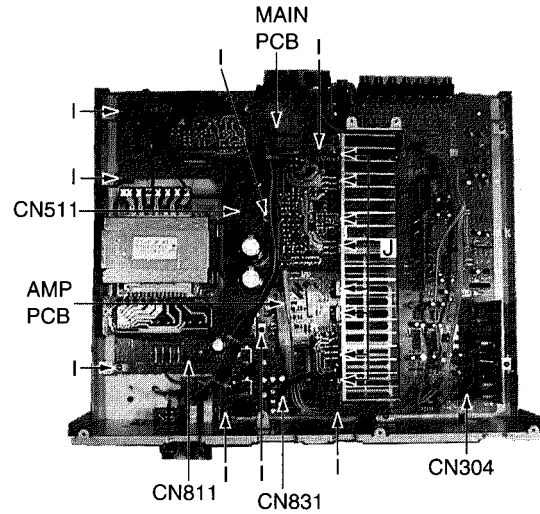

Fig.7
3. Disconnect the wire CN811 on the MAIN P.C.Board. (Fig.7)
4. Disconnect the wire CN304 on the INPUT P.C.Board. (Fig.7)
(7) MAIN P.C.BOARD Removal (Fig.7,8)